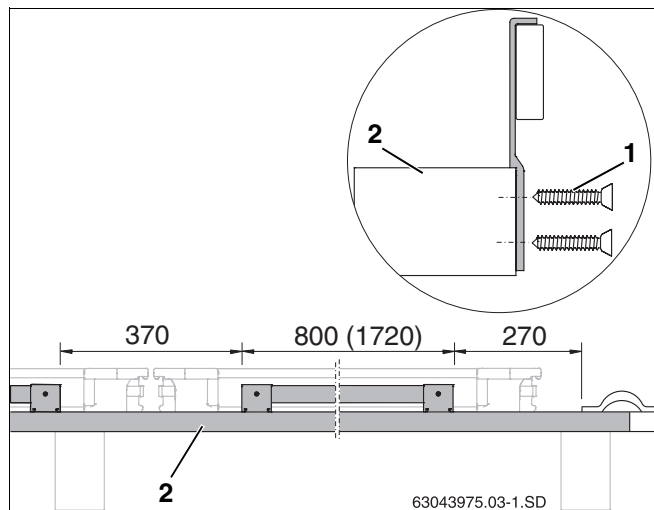

Fig. 11 Fasten anti-slip protection devices to roof batten (measurements in mm, value in brackets = landscape version)
- ▶ Place pre-assembled anti-slip protection device to the first additional roof batten (Fig. 11, **Item 2**), and fasten using two screws 4×40 (Fig. 11, **Item 1**) (observe measurements).